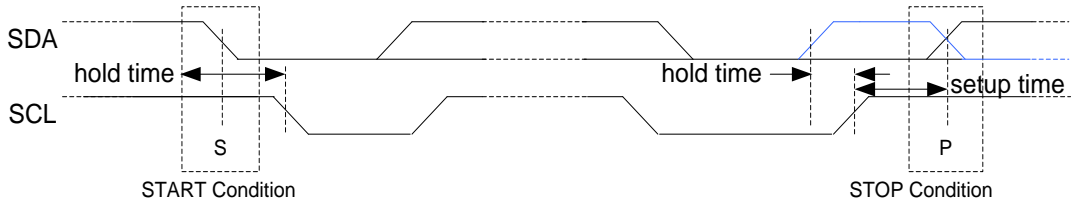

Figure 29. START and STOP (or repeated START, blue line) condition
An idle I²C bus state occurs when both SCL and SDA are not being driven by any master and are therefore in a logic HI state due to the pull up resistors. Every transaction begins with a START (S) signal and ends with a STOP (P) signal. A START condition is defined by a high to low transition on the SDA while SCL is high. A STOP condition is defined by a low to high transition on the SDA while SCL is high. START and STOP conditions are always generated by the master. This slave module also supports repeated START (Sr) condition which is same as START condition instead of STOP condition (the blue-color line shows repeated START in Figure 29).